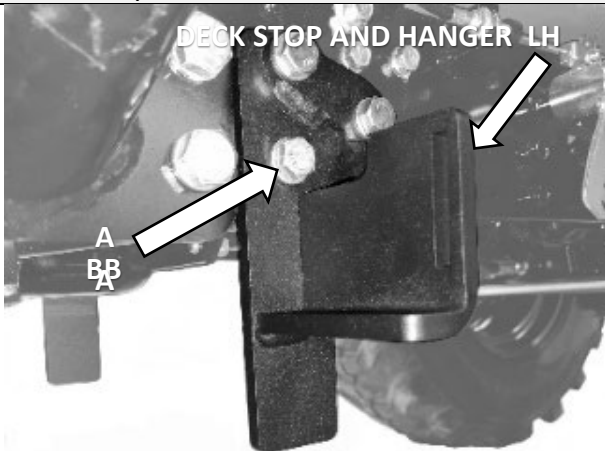

Figure 10A
8. Install the Tractor Deck Stop and Hanger LH using the bolts BB and washers AA, (Figure 10A). Torque to 55 ft-lb.